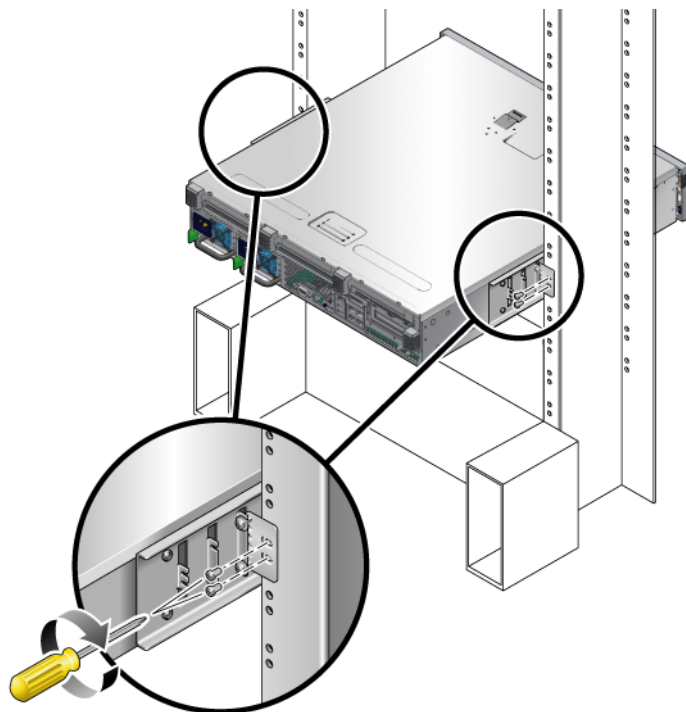

FIGURE 3-13 Securing the Rear Plate to the Side Bracket
- d. Using two screws, secure the far side of the rear plate to the back of the post (FIGURE 3-13). Screw size varies, depending on your rack.